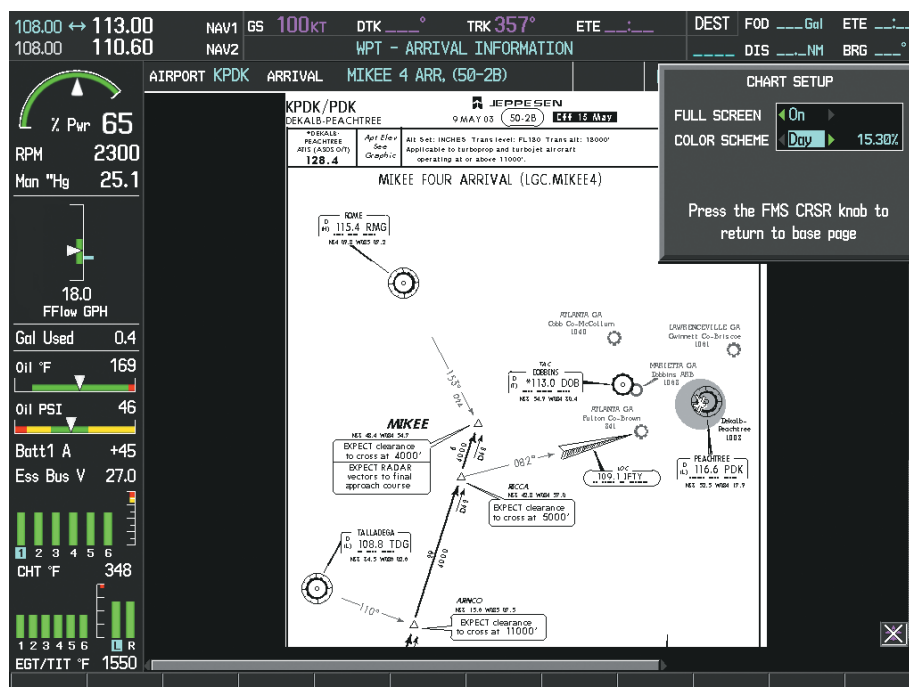

Figure 8-48 Arrival Information Page, Day View
- 3) Turn the large **FMS** Knob to move to the COLOR SCHEME Option (Figure 8-48).